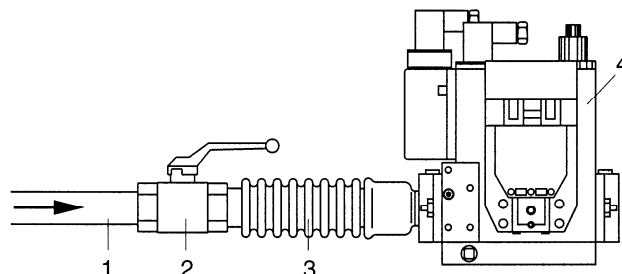

Fig. 2
The gas supply hose connection must be of suitable size and adequate for the type of system to be set up and must be effected by arranging the "gas ramp" as shown in Fig. 2: the gas pipe (1), the cut-off valve (2) and the antivibration coupling (3) are not supplied with the heater and so must be provided by the installer connecting them to the al gas valve group (4) supplied with the space heater.
- Connect a gauge to the upstream pressure intake (4) of the valve group (Fig. 2);